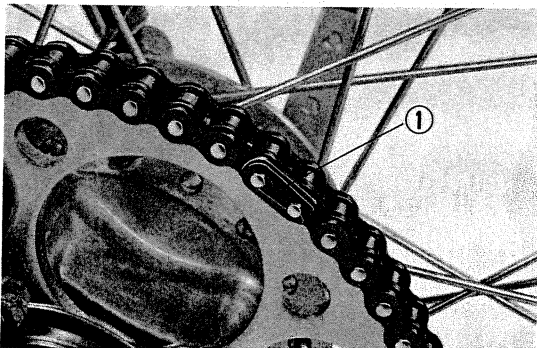

Fig. 27 ① Retaining clip and master link
- 9) Remove the left side cover. Disconnect the drive chain by removing the clip from the master link. Take out the chain from the motorcycle. (Fig. 27)